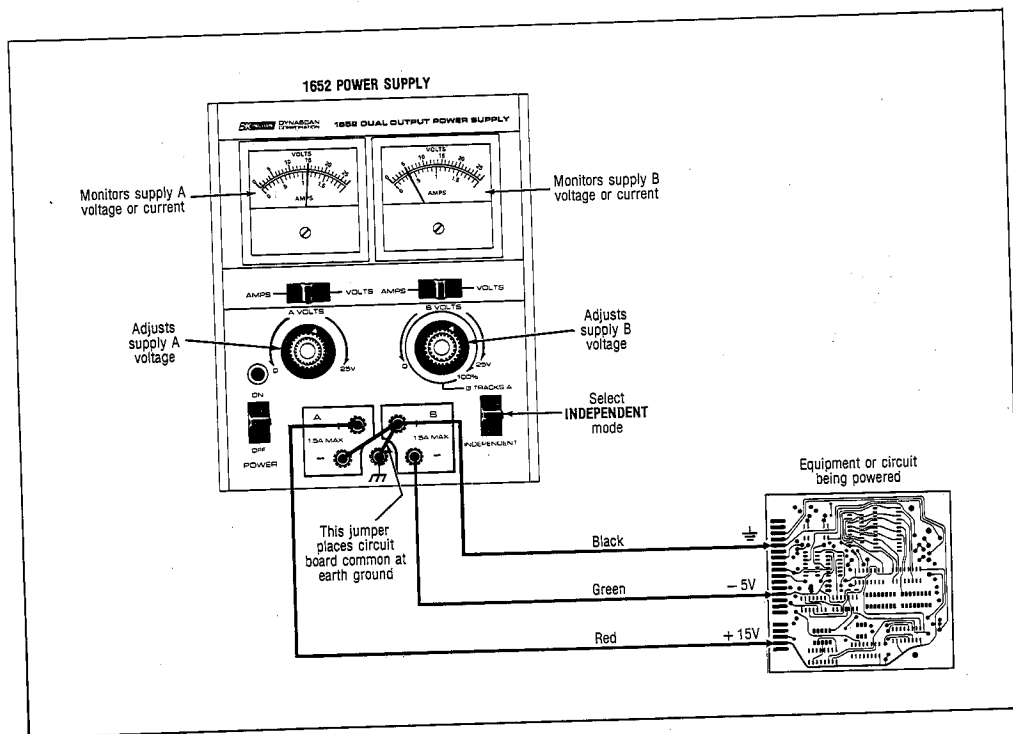

Fig. 7. Typical Simultaneous Use of Both Supplies.
DUAL OUTPUT (INDEPENDENT MODE) (Refer to Fig. 7)
Operation is virtually the same as combining the operation for each individual supply as previously described. However, when providing two voltages to a single circuit such as shown in Fig. 7, a few additional factors should be considered.
1. Each supply's output is floating and independent of the other supply. The chassis or common bus of the circuit being powered must be connected to each of the supplies. Only one common lead from the circuit being powered to the power supply is required if strapping or jumpering is used between the common terminals of the two supplies (see Fig. 7 for an example).